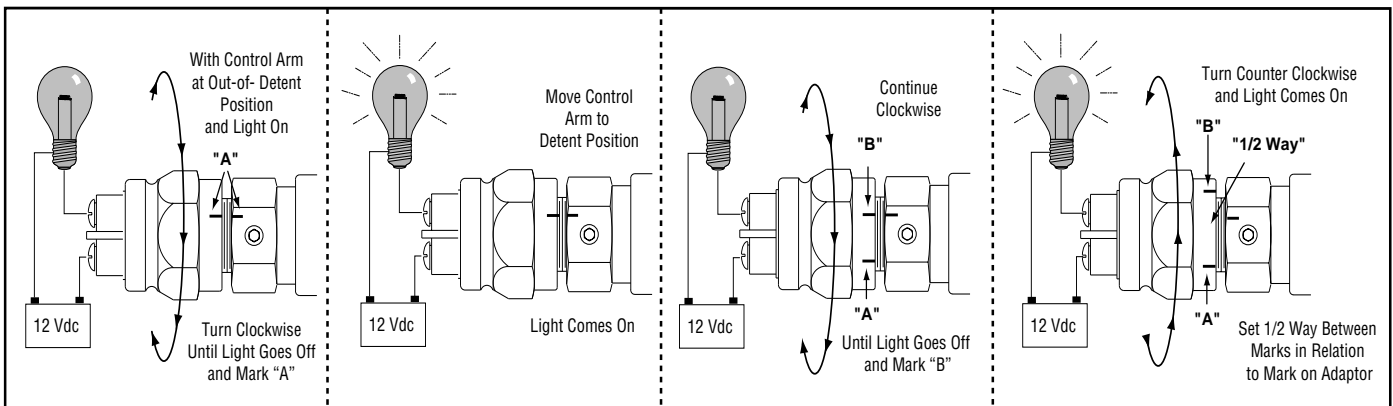

Figure 2-3
- (c). Screw the switch in until the light just goes off. Mark this as position "A" with two adjacent marks on the switch adapter. Refer below to figure 2-3. Move the control arm to the detent position and the test light should come back on.